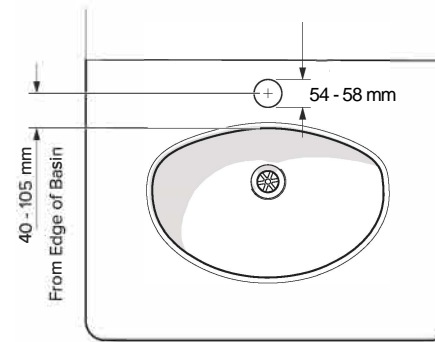

Fig 3
1. Measure, mark and core a hole through basin or vanity to the dimensions shown in figure 3.